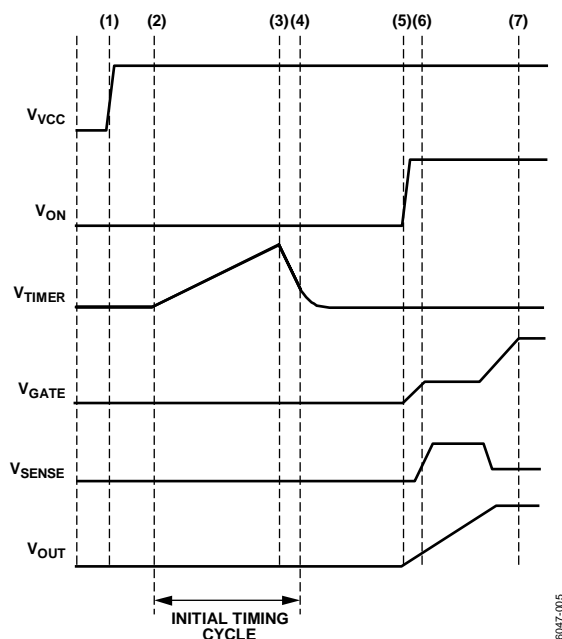

Figure 33. Startup (ON Asserts After Power Is Applied)
At this point, the FET gate is charged up with a 12 μA current source. At Time Point (5), the threshold voltage of the FET is reached, and the load current begins to flow. The FET is controlled to keep the sense voltage at 100 mV (this corresponds to a maximum load current level defined by the value of R_{SENSE}). At Time Point (6), V_{GATE} and V_{OUT} have reached their full potential, and the load current has settled to its nominal level. Figure 33 illustrates the situation where the ON pin is asserted after V_{VCC} is applied.